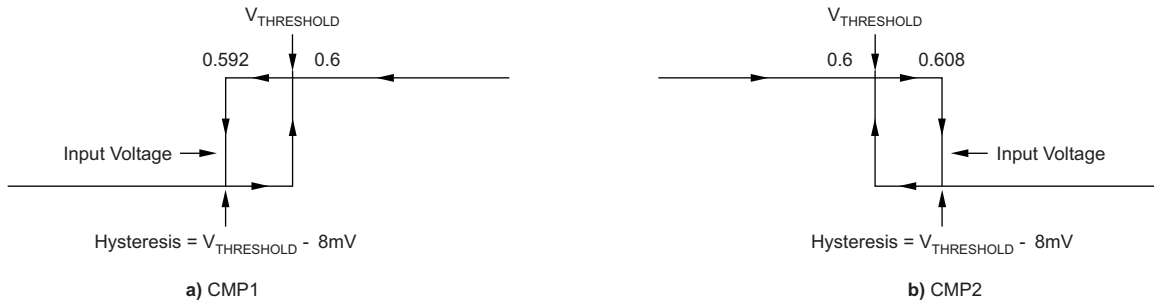

Figure 1. Comparator Hysteresis
- (1) Hysteresis refers to the threshold (the threshold specification applies to a rising edge of a noninverting input) of a falling edge on the noninverting input of the comparator. See Figure 1.
- (2) Specified by design.
- (3) The comparator response time specified is the interval between the input step function and the instant when the output crosses 1.4 V.
- (4) RESET input has an internal 2 M Ω (typical) pull-down. Leaving RESET open results in a LOW state, with transparent comparator operation.